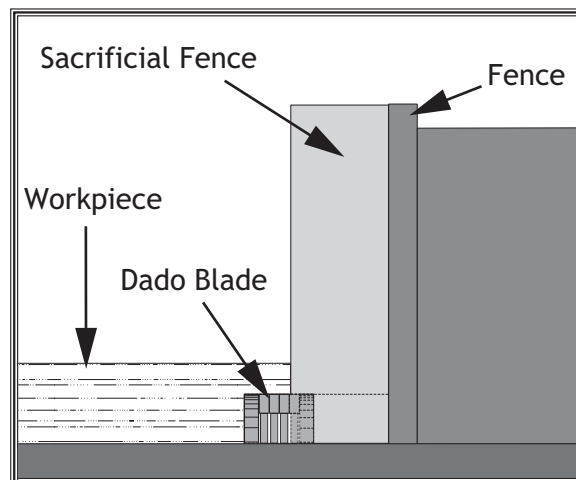

Figure 52. Rabbet cutting.
5. Align the workpiece to perform the cutting operation as shown in Figure 52.